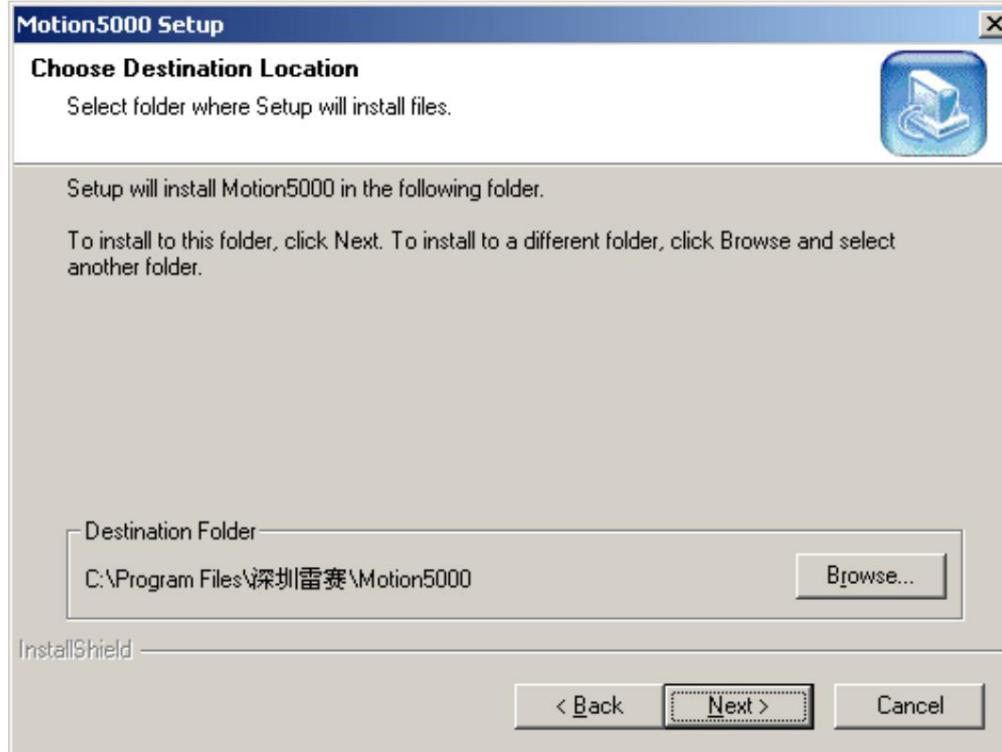

Figure 6-4 Selecting the installation path
4. The system will display the interface for selecting the installation path shown in Figure 6-4. Generally speaking, the user presses the default path, installation, and then click the Next button;